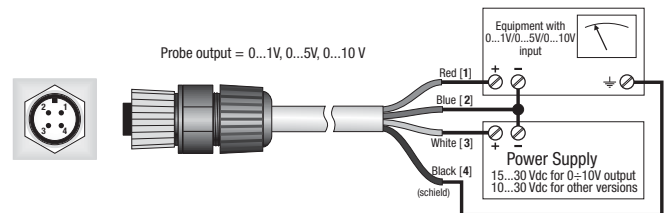

Fig. 8
- LP PYRHE 16 AV should be connected to a power supply device and to a multimeter according to the scheme below (figure 8), the load resistance for signal readout should be $\geq 100 \text{ k}\Omega$: